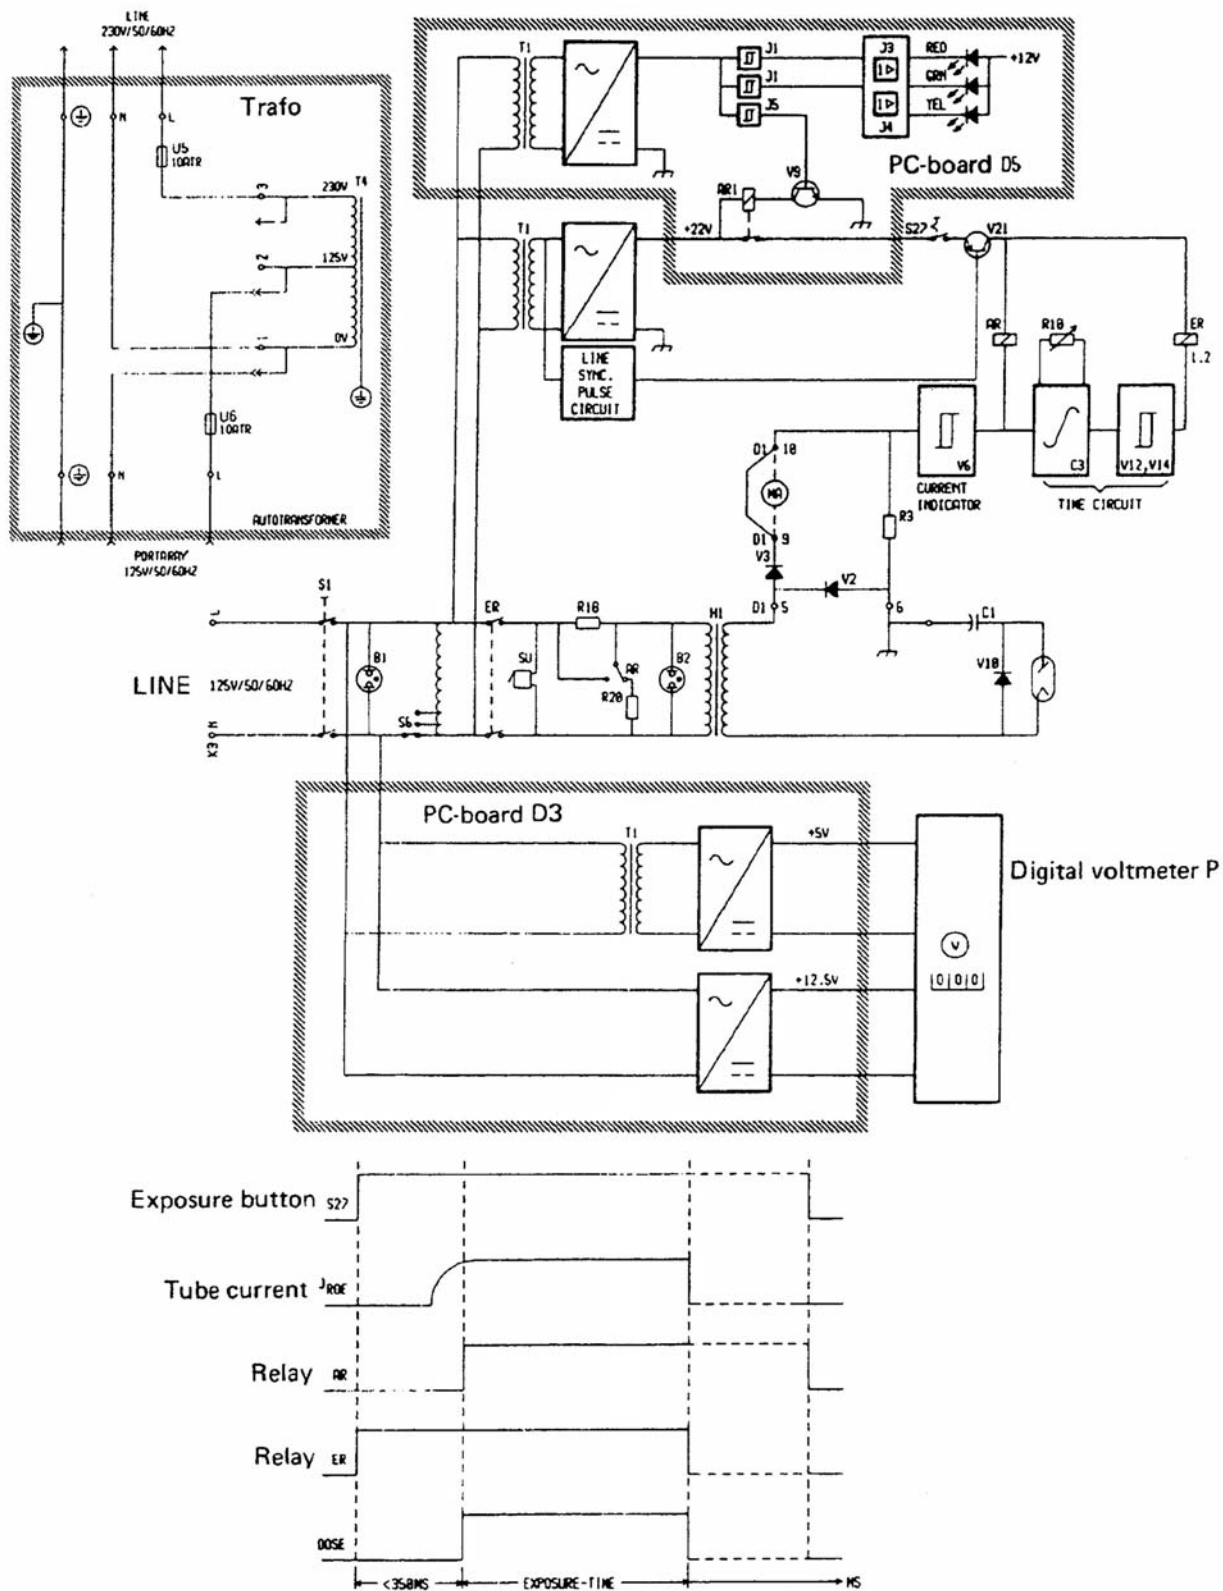

Figure 3-7. Theory of principles of operation--logic block diagram.
a. **Description of Function.** Refer to figure 3-7, the logic block diagram describing the functioning of the Heliodent 70.
(1) The Heliodent 70 X-ray tube is indirectly heated, i.e., the heater and the high voltage are switched on at the same time. Thus, tube current flows only once the emission temperature of the filament is reached (after 150 to 250 msec [millisecond]). As soon as the peak tube current exceeds a given value, the Schmitt trigger (V6) switches over, the AR relay energizes, and the timer circuit, consisting of C3/R10, V12, V14 is triggered. The AR relay shorts the resistor R18 and separates the resistor R20 from the power source. Accordingly, the Heliodent is then operated from the line without damping.
(2) As soon as the capacitor C3 is charged to the threshold voltage set on the Schmitt trigger, the timer circuit shuts the ER relays down, and the exposure is terminated. The AR relay drops only as the trigger switch is released.